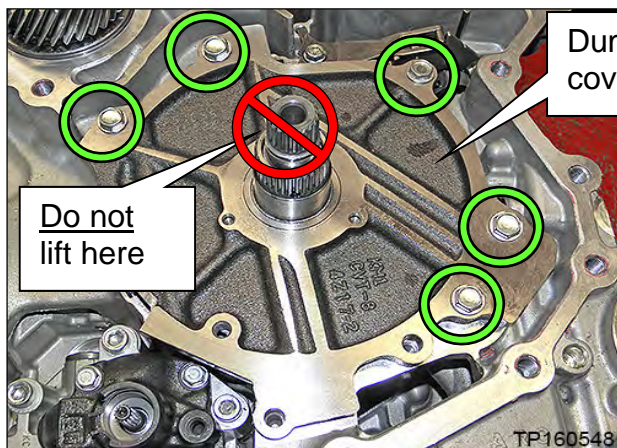

Figure 50
28. Remove the five (5) dummy cover bolts, and then remove the dummy cover. See Figure 50.
- Lift the dummy cover from the sides **ONLY**. Do NOT lift from the input shaft (Figure 50); this can lift the clutch pack out.